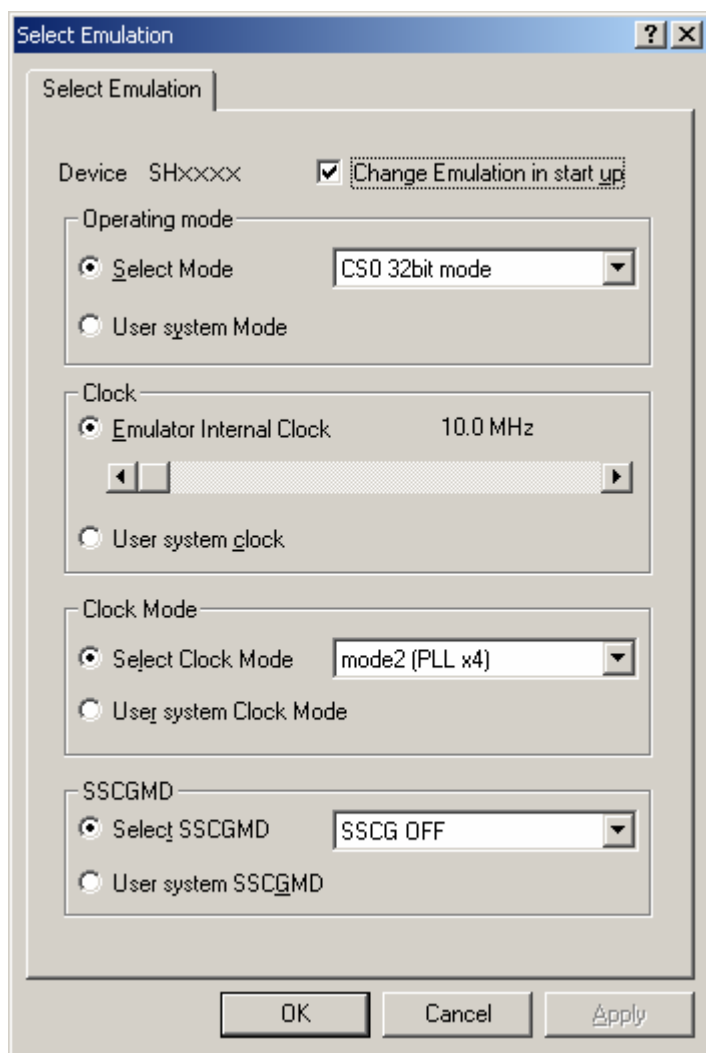

Figure 4.11 [Select Emulation] Dialog Box
(1) The dialog box is displayed as shown in figure 4.11.